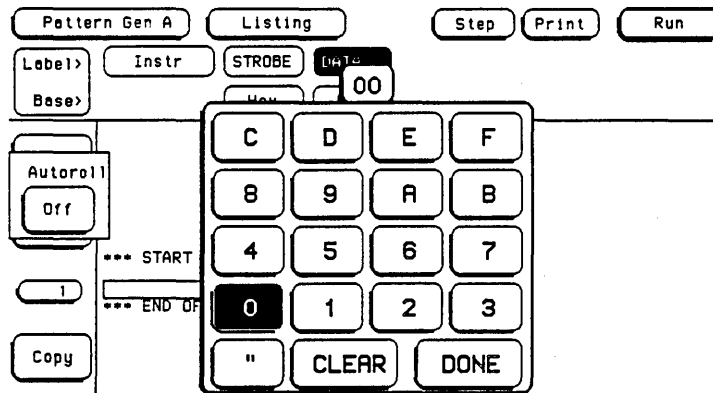

Figure 3-11. Numeric Entry
5. Enter 0s as shown in figure 3-11, then touch Done.